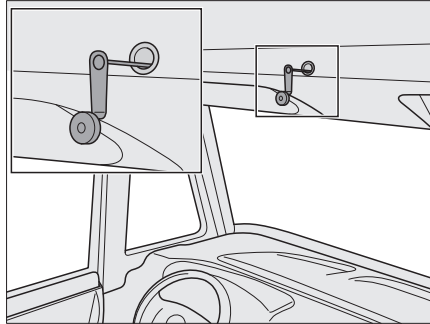

Fig. 165 Emergency operation for the electrical pull-down bed
- ▷ In the case of a power failure the electrical pull-down bed can also be moved with an emergency crank (Fig. 165). This is located in the kitchenette.